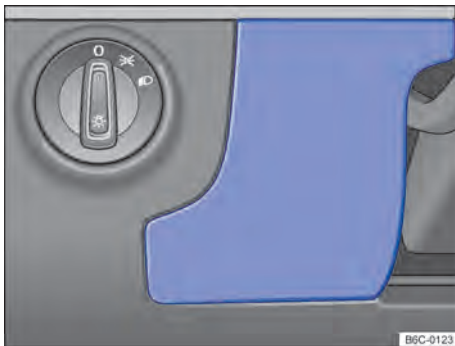

Fig. 172 On the driver's side of the dashboard: fuse box cover.
- Hold the fuse box cover → **Fig. 172** and pull forward.